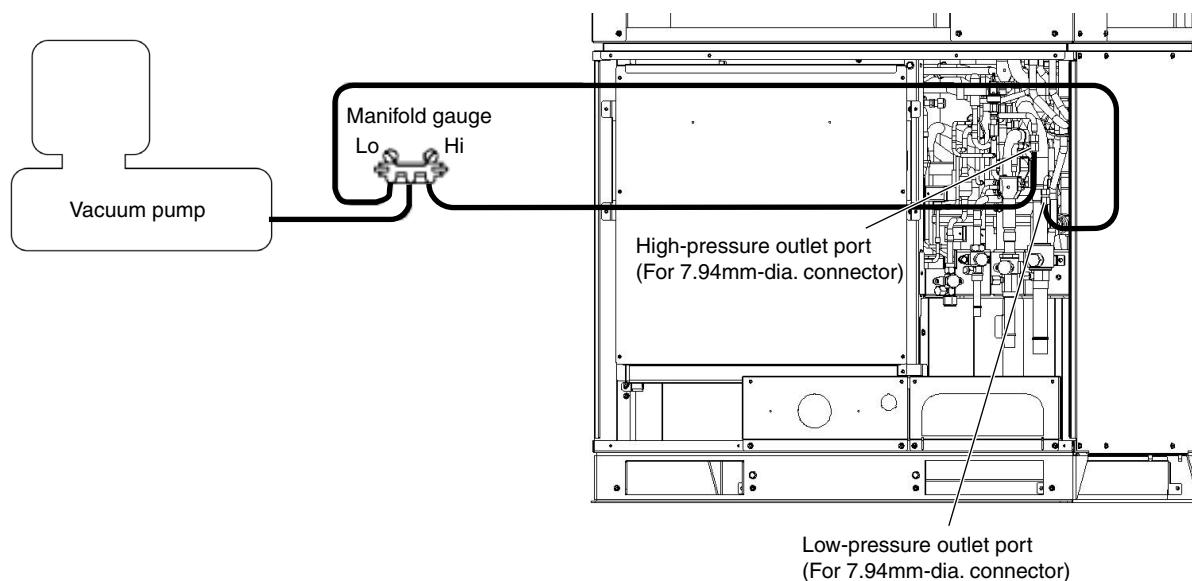

Fig. 11
- (1) Check that each service valve of the suction tube, discharge tube, liquid tube, and balance tube in the outdoor unit are fully closed.
- (2) Connect the manifold gauge valves to the high-pressure and low-pressure sensor outlets of the outdoor unit. (Fig. 11)
- (3) Connect the manifold gauge valves to the vacuum pump.
- \* If the AP pins (CN102) on the outdoor control PCB have already been short-circuited, step (4) is not necessary.
- (4) Turn off power to the repaired outdoor unit and short-circuit the AP (Air Purge) pins on the outdoor control PCB.